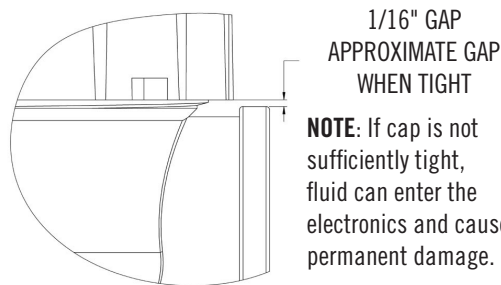

FIGURE 3
5. Thread on meter cap until hand tight. To check tightness, there should be approximately 1/16" gap between the cap and ridge on outlet port (see Figure 3).